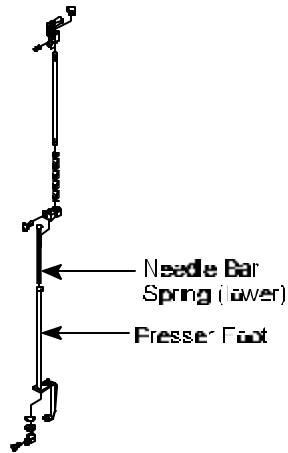

Figure 6
17. **Remove** Presser Foot and Needle Bar Spring (lower). See Figure 6.